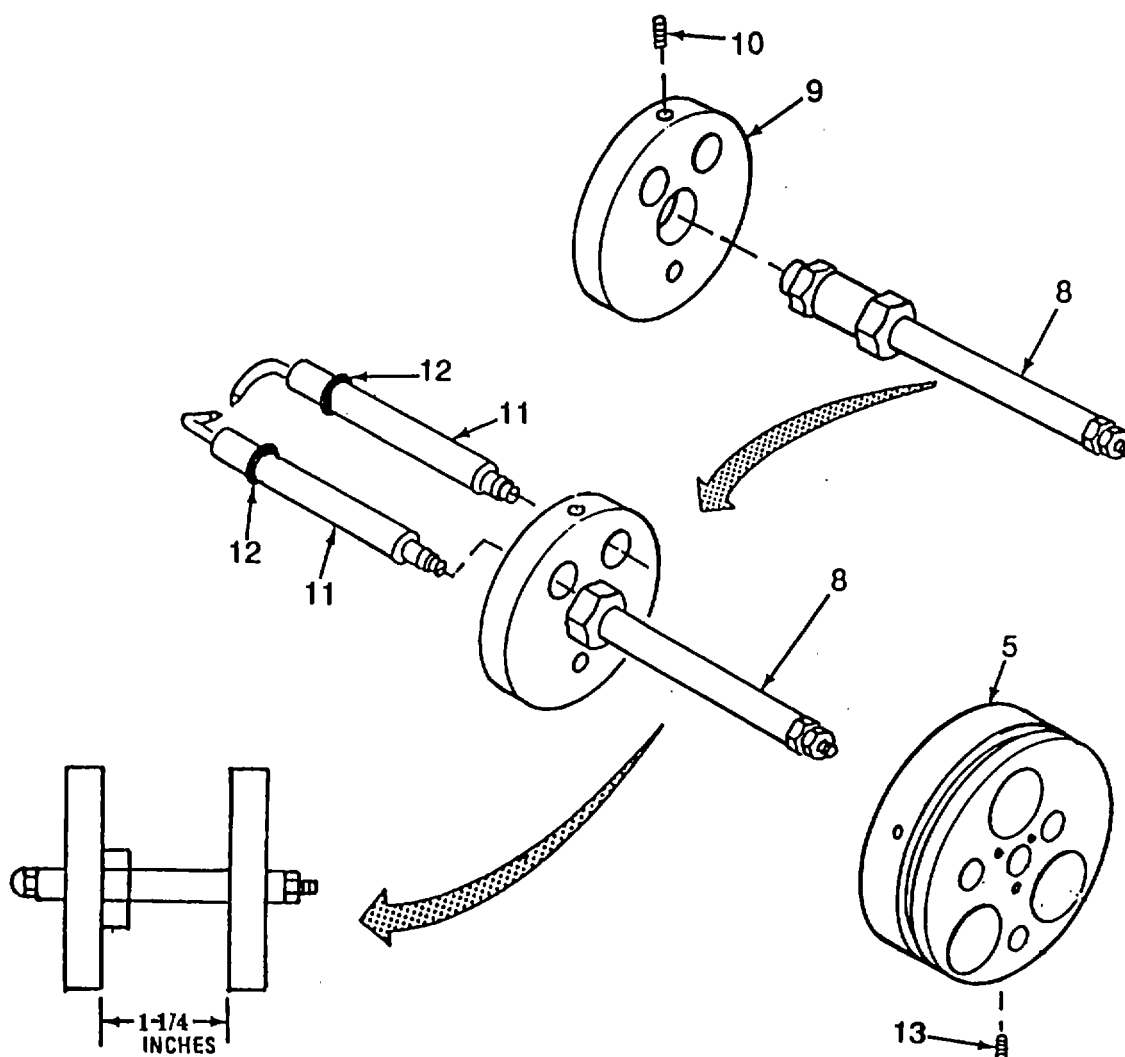

Figure 5-9. Burner Assembly (Sheet 2 of 5)
c. Assembly - continued (Refer to Figure 5-9)
- (7) Install two sleeves (14) into block (5). Ensure the slots are 180° away from setscrews (15).
- (8) Install two preformed packings (12) (Item 11, App H) on electrodes (11) toward the tip.